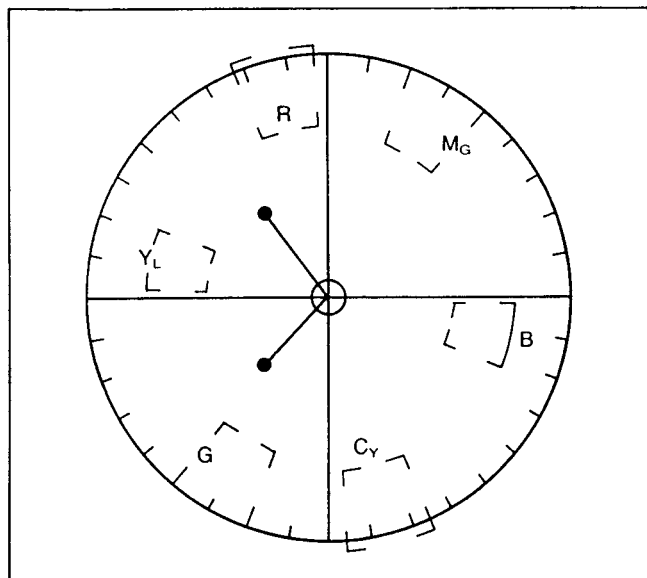

Fig. C25
- (4) Adjust the AWT (R-Y OFFSET) and AWT (B-Y OFFSET) controls (VR105 and VR106) so that the colour vectors move to the centre of screen on the vectorscope. (Refer to Fig. C25.)